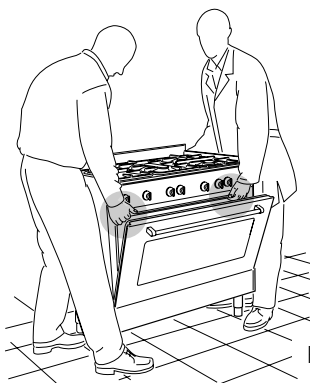

Fig. 21
**When raising cooker to upright position always ensure two people carry out this manoeuvre to prevent damage to the adjustable feet (fig. 21).**
**Lift feet clear of floor (fig. 21).**